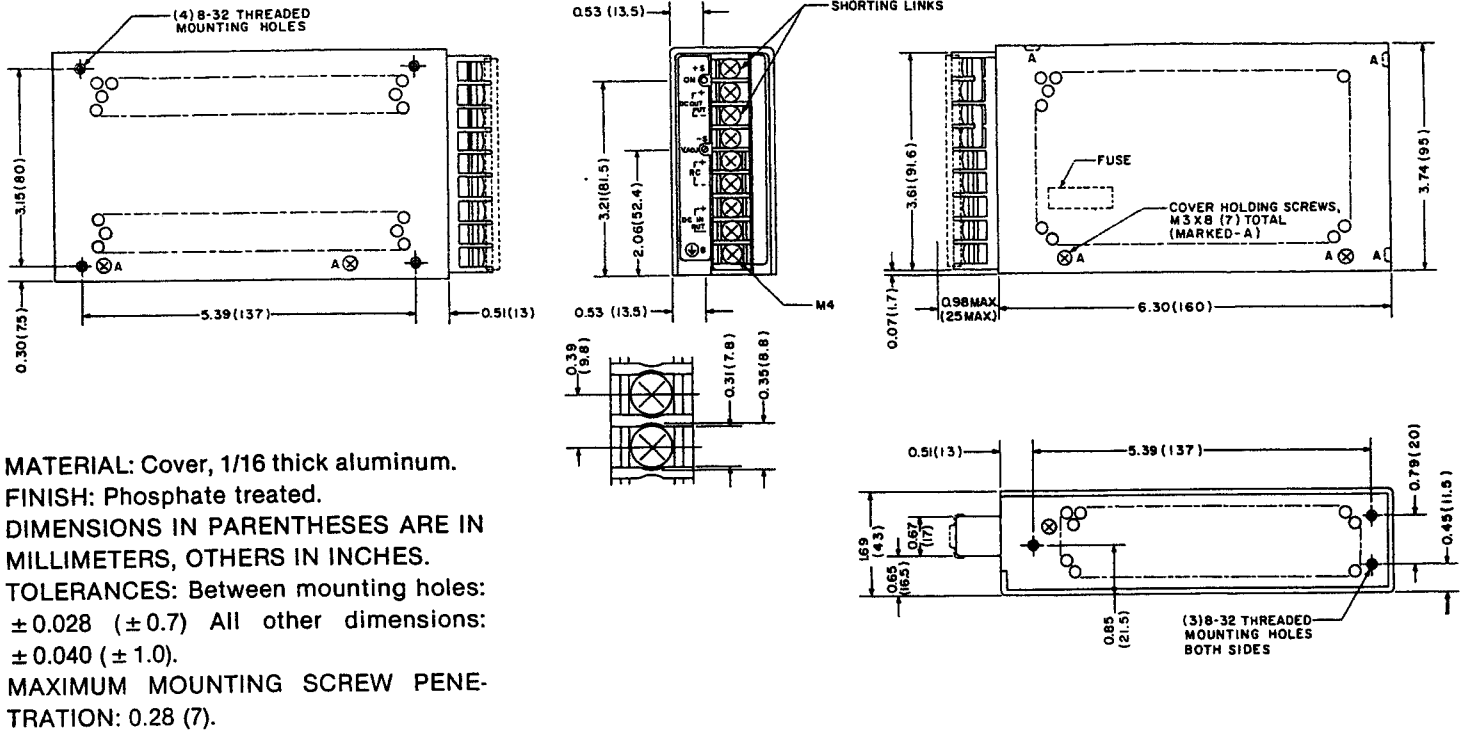

FIG. 5 MECHANICAL OUTLINE DRAWING, ERD60W-24 SERIES
(1) Accessible after cover removal, refer to FIG. 5.